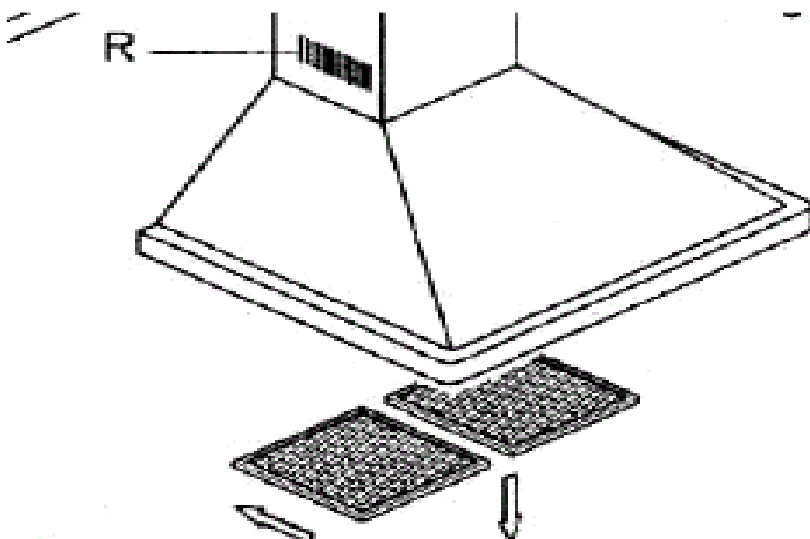

Fig. 2
- ✓ Remove the metal anti-grease filters (see Figure 2 below) and find the old bulb located in the light fixture up inside the exposed canopy. Change the halogen bulb using only olive-shaped spares with an G4 coupling, max. 20W.
- 1) Press the handle of the metal grease filter towards the rear part of the unit until it is released from the front housing, and remove it by pressing downwards (Fig. 2 - above).